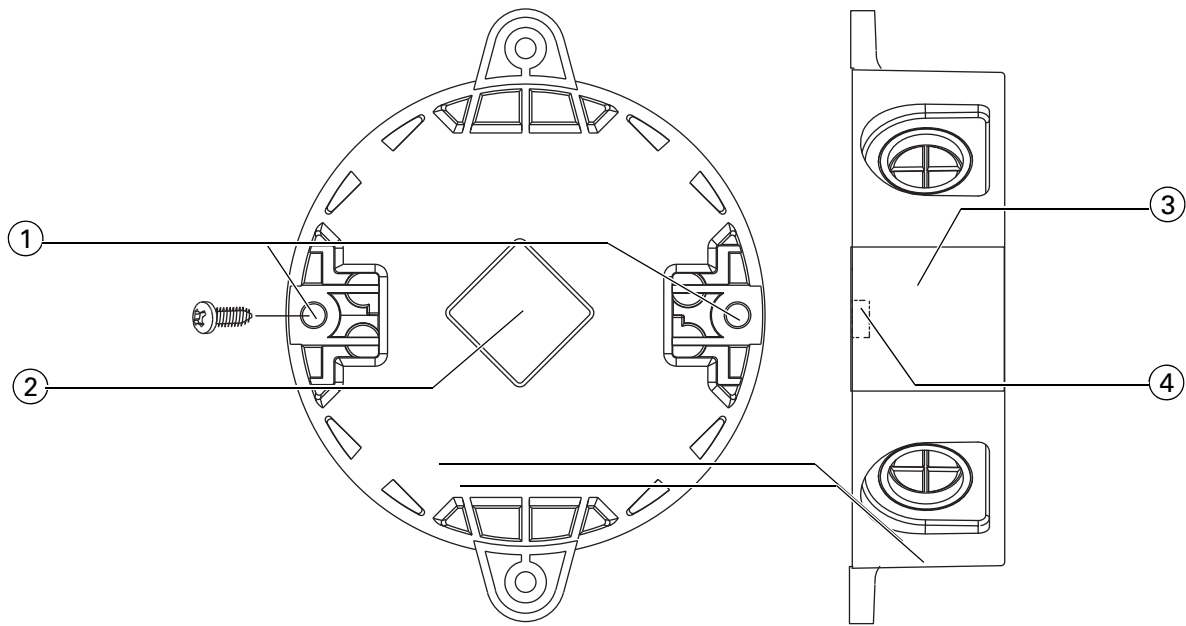

Fig. 9: 4B-DHM welding option
- 1 Position the 4B-DHM so the flat base (that contacts the mounting surface) is towards you. This position corresponds to Figure 9. The item numbers in Figure 9 are referred to in this procedure.